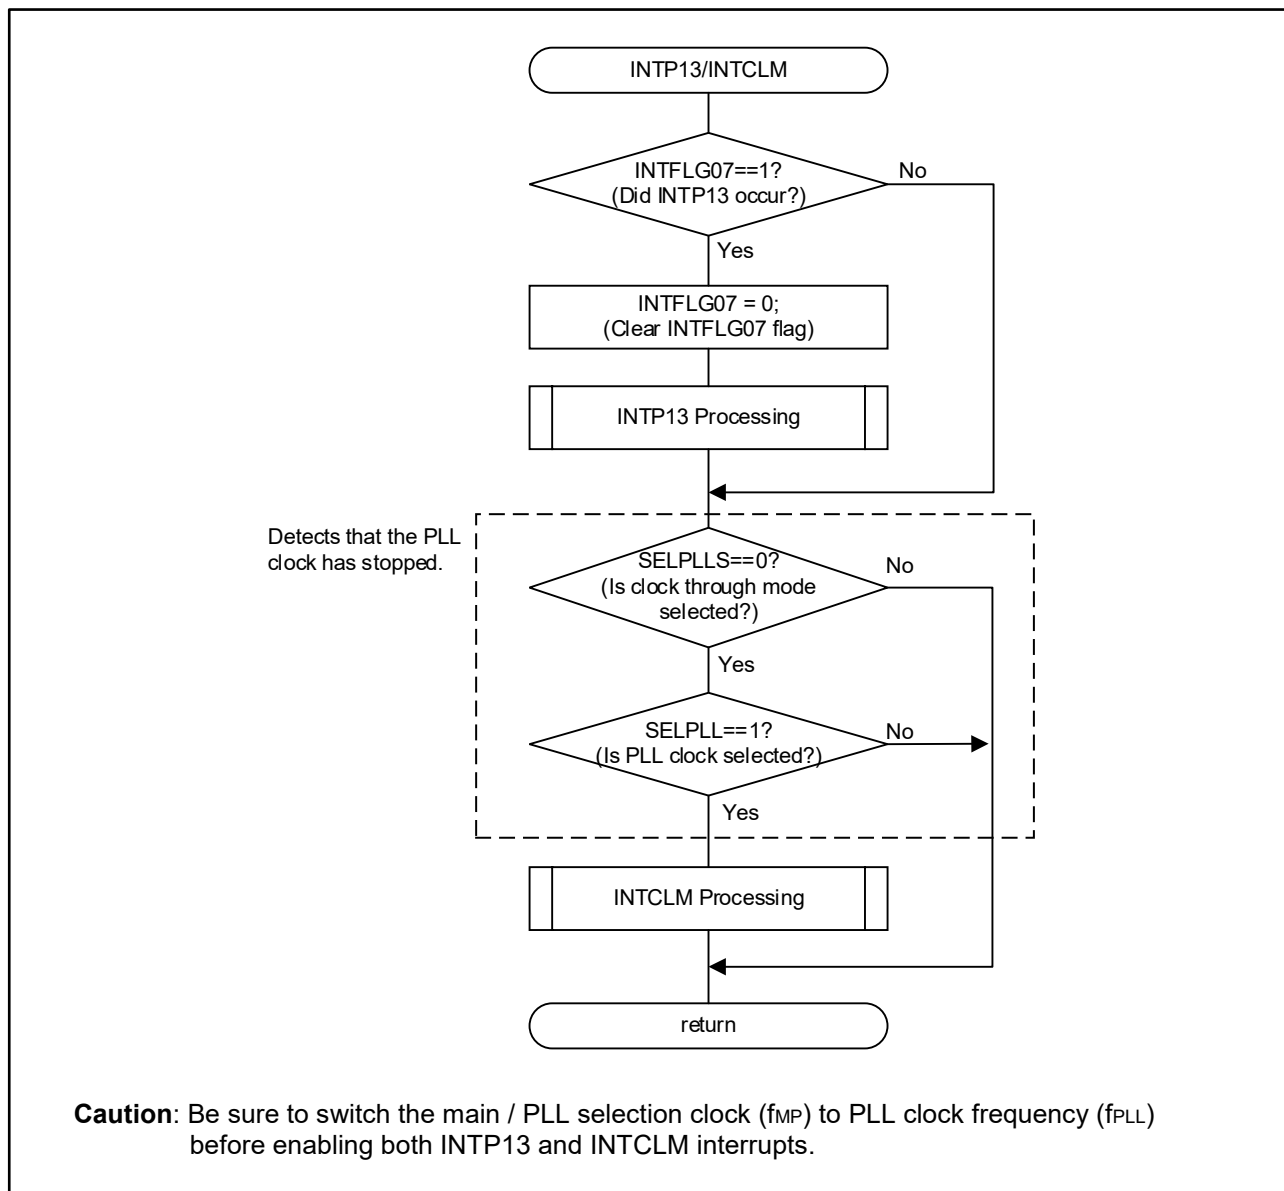

**Figure 1-2 INTP5/INTCMP0 Interrupt Judgement Example**
**Figure 1-2** shows an interrupt processing example in case of both INTP5 (Pin input edge detection 5) and INTCMP0 (Comparator detection 0) are enabled.